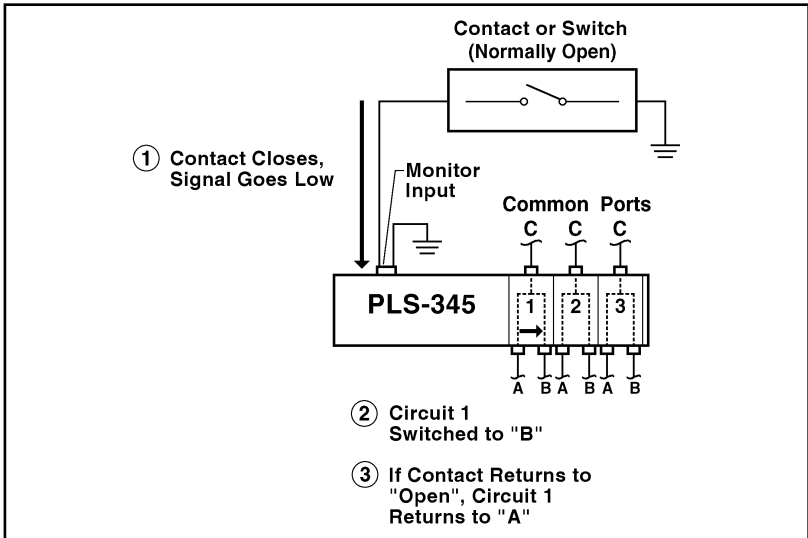

Figure 9.3: Monitoring a Switch or Relay
**Note:** This example could also be used to monitor a contact or switch that is normally closed. To automatically switch A/B circuits when a contact is opened, use item 3 (Switch if Level) in the Monitor Mode Parameters Menu (Section 5.7.2) to select the "1 - High" option.
1. **Connect Line from Data Device:** Connect a line from the contact to the Monitor Input Connector as shown in Figure 9.3.